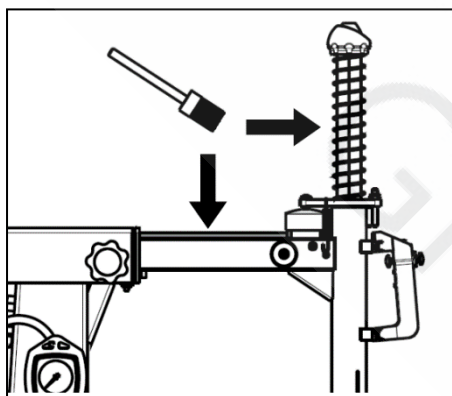

FIG35
- Use the diesel oil to clean the turntable jaw and guide rail and use the Lithium grease to lubricate (Fig35).